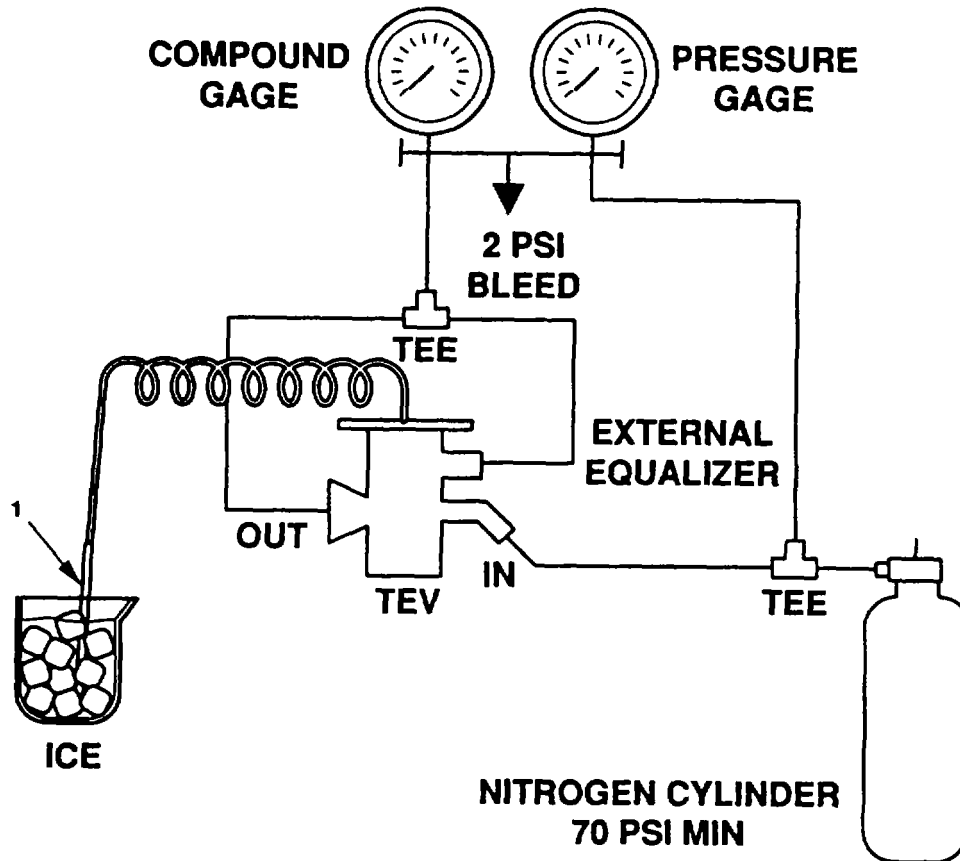

Figure 5-23. Thermoexpansion Valve Test Setup.
Refer to Figure 5-23 for thermoexpansion valve test set up.
- (1) Connect bar gauge manifold, hoses, TEV, tees, nitrogen, and other components as depicted in Figure 5-23.
- (2) Insert TEV temperature sensing bulb (Figure 5-23, 1) in ice.
- (3) Open nitrogen cylinder (70 psi (482 kPa) minimum).